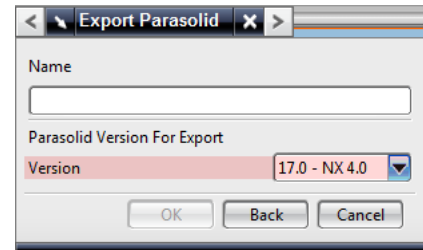

Figure 14
2. In the **Version** drop-down list, **select 17.0 – NX 4.0** (see Figure 14).